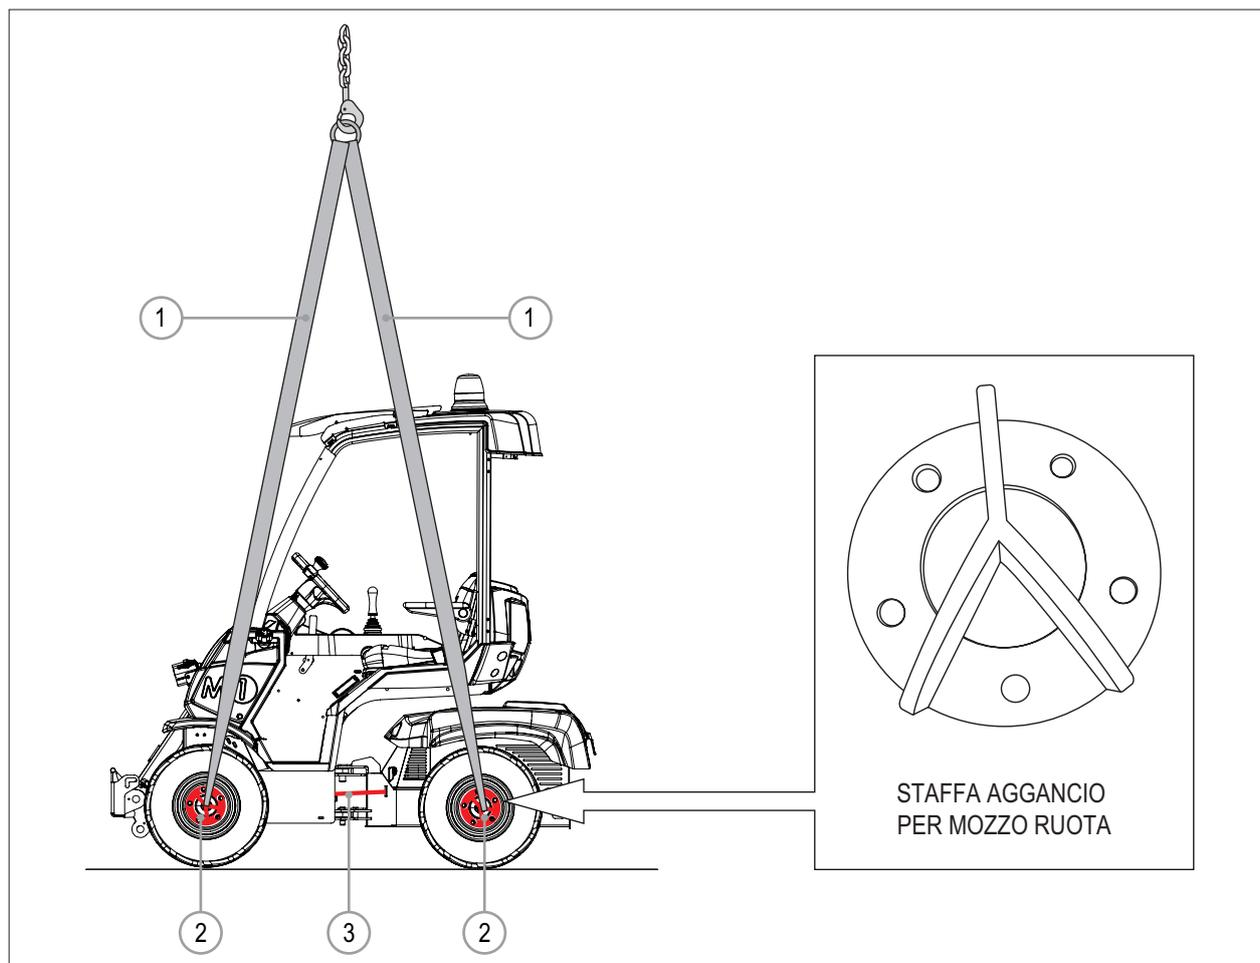

FIG. 16
IT IS COMPULSORY TO INSTALL THE TIE-DOWN BRACKETS (AVAILABLE AS OPTION) ON EACH WHEEL HUB OF THE MACHINE (SEE FIG. 16).
- 2) Insert the steering lock bracket (FIG. 16 - Rif. 3) (see par. 5.2.1).
- 3) Hook the lifting straps (FIG. 16 - Rif. 1) to the tie-down brackets of the front and rear wheel hubs (FIG. 16 - Rif. 2). To avoid damage to the machine during lifting, make sure that the lifting straps do not touch the machine at any point.